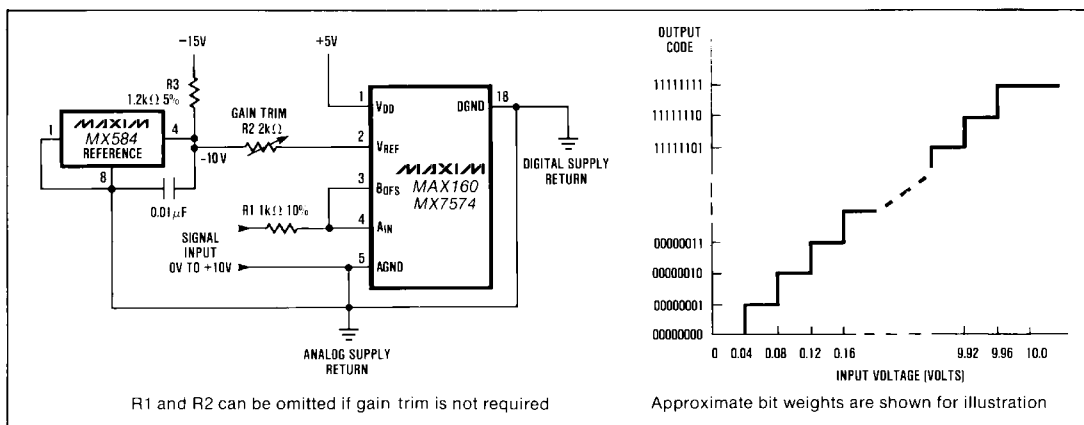
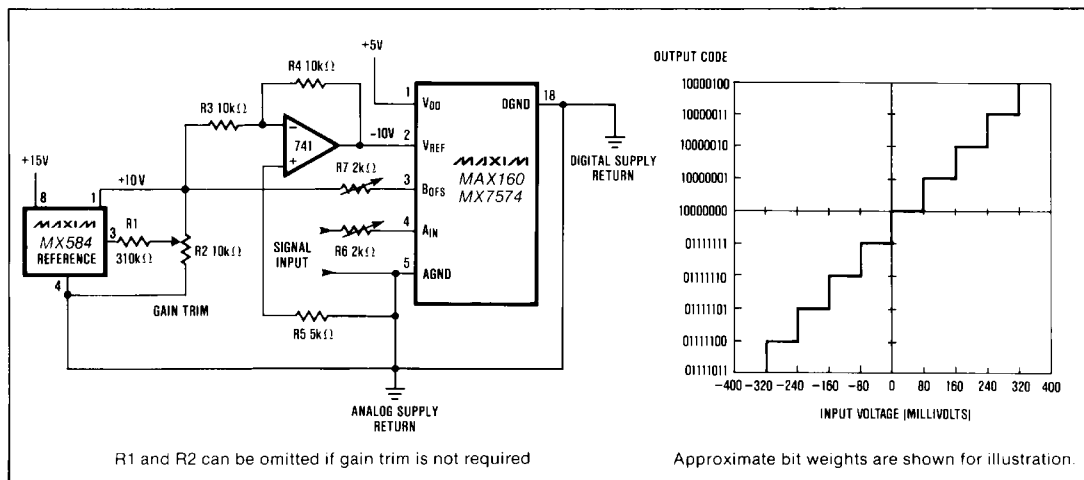
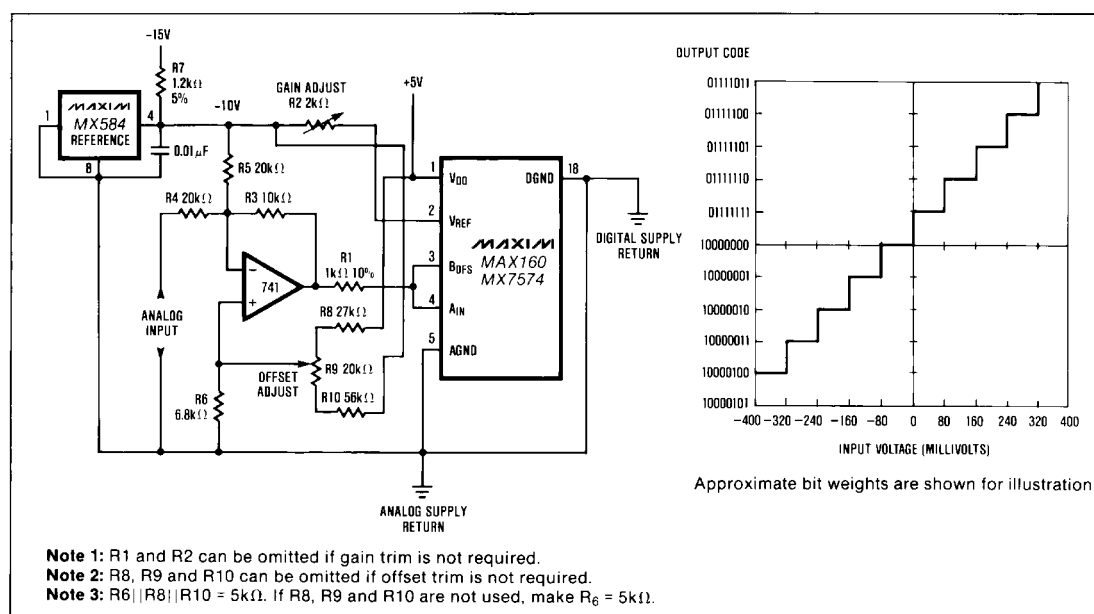

Figure 10. Unipolar (0V to +10V) Operation and Nominal Transfer Characteristic (Output Code is Straight Binary)
Figure 11. Bipolar (-10V to +10V) Operation and Nominal Transfer Characteristic Around Major Carry (Output Code is Offset Binary)
Figure 12. Bipolar (-10V to +10V) Operation and Nominal Transfer Characteristic Around Major Carry (Output Code is Complimentary Offset Binary)
Offset error in the transfer function can be trimmed by offsetting the buffer that drives the A_{IN} input. This can be achieved either by summing a cancellation current into the amplifier's summing junction, or by tapping a voltage divider which sits between V_{DD} and V_{REF} and applying the tap voltage to the amplifier's non-inverting input. An example of the latter method can be seen in Figure 12.
Figure 10 shows the analog circuit connections and nominal transfer characteristic for unipolar operation. Calibration is as follows:
If offset trimming is required, it must be done in the signal conditioning circuitry used to drive the A_{IN} input in Figure 10. See also the offset trim example shown in Figure 12.
Figure 11 illustrates the analog circuitry and transfer function for bipolar operation. The output coding is offset binary. Offset correction can be performed at the buffer amplifier used to drive the signal input terminals of the MAX160/MX7574. See Figure 12 for an example of how offset trimming can be performed. Calibration is as follows:
Figure 12 shows the analog connections for offset binary operation. The typical transfer characteristic is also shown. In this bipolar mode, the input signal (-10 to +10V) is conditioned and the A/D basically operates in unipolar mode (0 to +10V). Calibration is as follows (offset adjusted before gain):
1. Apply 0V to the analog input shown in Figure 12.
1. Apply -9.922V across the analog input terminals shown in Figure 12.